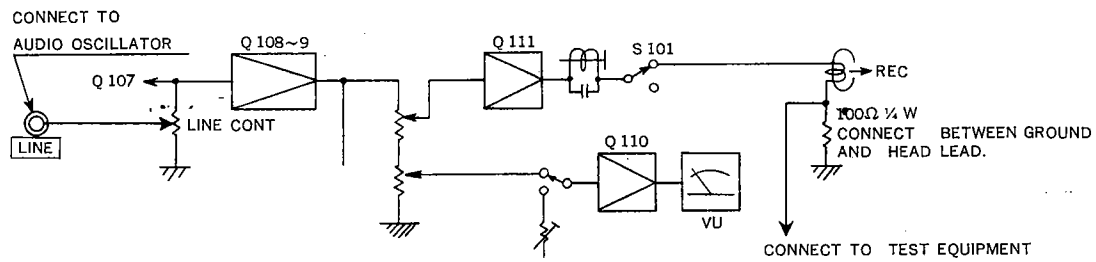

**FIG. 11 SIGNAL-TO-NOISE RATIO COMPUTATIONS.**
9. Play a bulk erased tape and read the noise level on the VTVM. The noise level for both channels in both directions at  $7\frac{1}{2}$  and  $3\frac{3}{4}$  ips should be -55 db or less. (Refer to Fig. 11)
5. Check the signal to noise ratio for both channels at both speeds. The noise level for both channels in both directions should be -55 db or less. This represents the signal to noise ratio for 3% total harmonic distortion (peak recording level) (see Fig. 11)